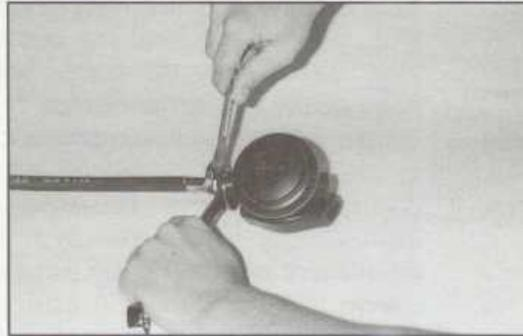

FIG 7-1
1. Remove the LP hose (14) from the second stage using only the following technique. Grasp the hex portion of the inlet coupler (10) with a 3/4" open end wrench. Next, use an 11/16" open end wrench to loosen the LP hose nut in a counter-clockwise movement. Refer to figure 7-1.